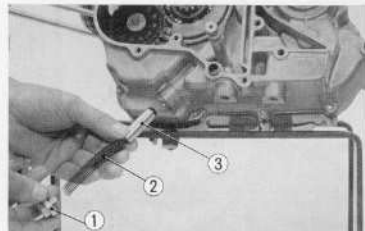

Fig. 3.61 Removing the tensioner push rod
5. Unscrew the 14 mm sealing plug ① from the end of the tensioner pushrod and remove the spring ② and rod ③. (Fig. 3.61)